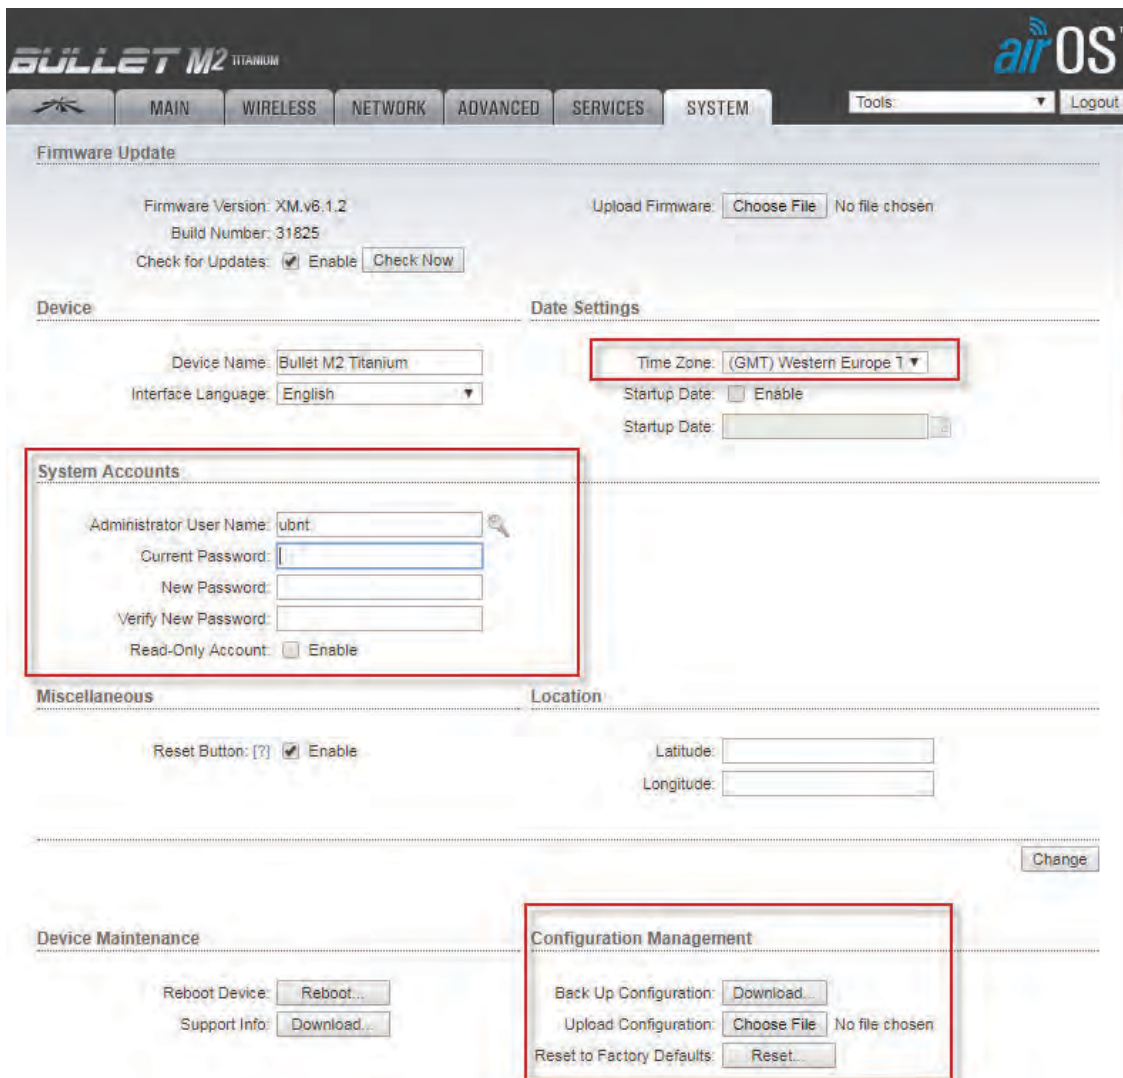

FIGURE 30-2. FIRMWARE UPDATE SCREEN
8. Click the **SYSTEM** tab. See Figure 30-2.